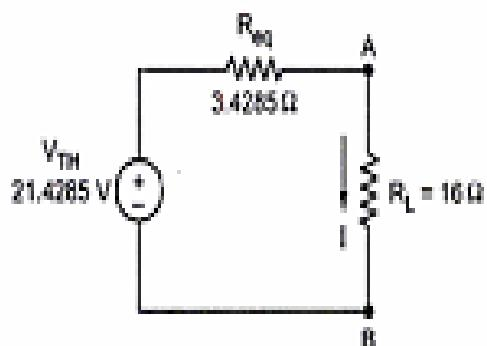

Fig. 2.70 (e)
Step 4 : Thevenin's equivalent is shown in the Fig. 2.70 (e).